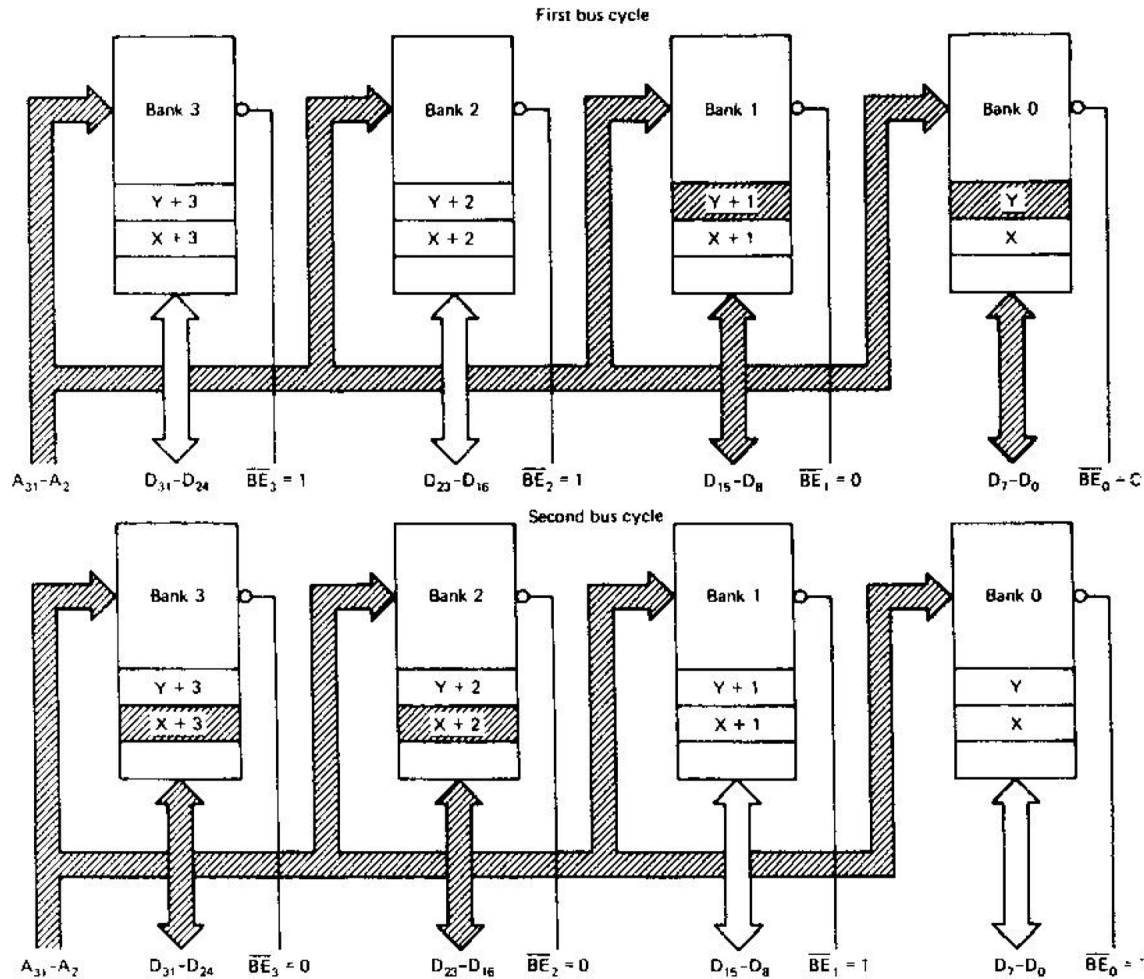

Figure 9.24 Misaligned double-word data transfer.
- Misaligned double-word transfer - Figure 9.24